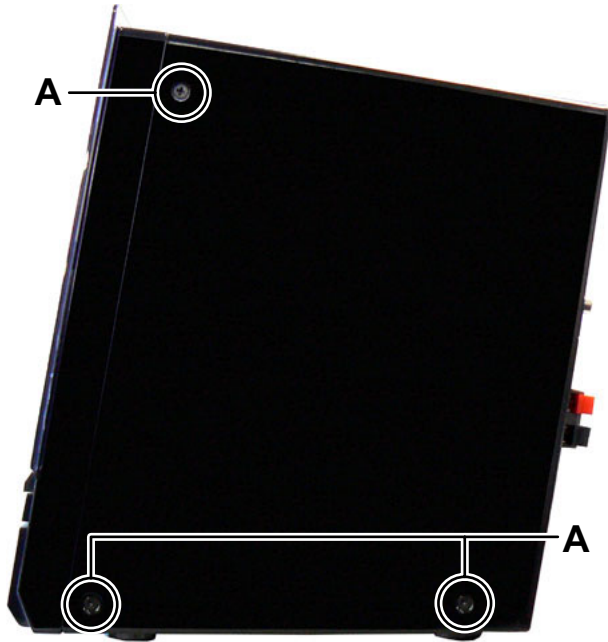

Fig.1
3.1.1 Removing the Top cabinet (See Fig.1, 2)
- (1) Remove the six screws **A** attaching the both side of the Top cabinet. (See Fig.1)